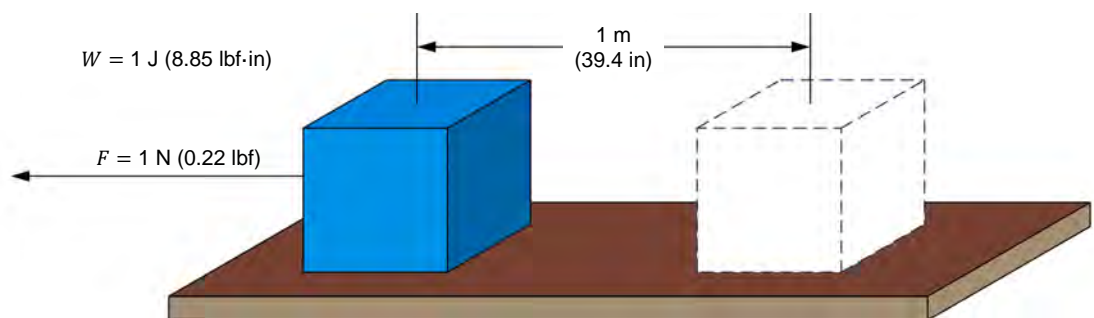
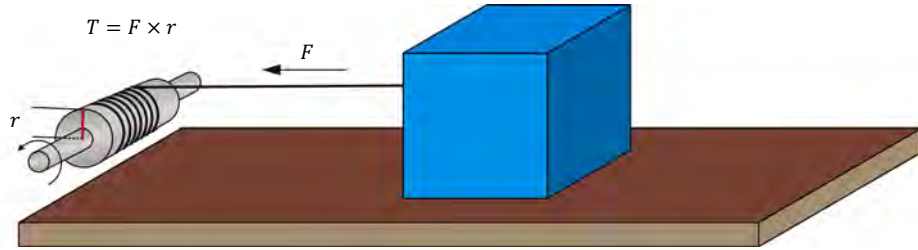

Figure 1. Work required to move a block.
Figure 2. Moving a block using a pulley.
Figure 1 shows the example of a block that is moved over a distance d of 1 m (39.4 in) by a force F of 1 N (0.22 lbf). Using Equation (1), it can be calculated that a mechanical work W of 1 J (8.85 lbf·in) has been done.
Consider now that the block in Figure 1 is moved over the same distance using a pulley that has a radius r , as shown in Figure 2.